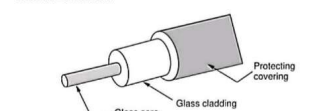

Fig. Q.15.1 Fiber optic cable
• The Fig. Q.15.1 shows the fiber optic cable. It consists of a core and a buffer (a protective outer coating), in which the cladding guides the light along the core by using the method of total internal reflection.